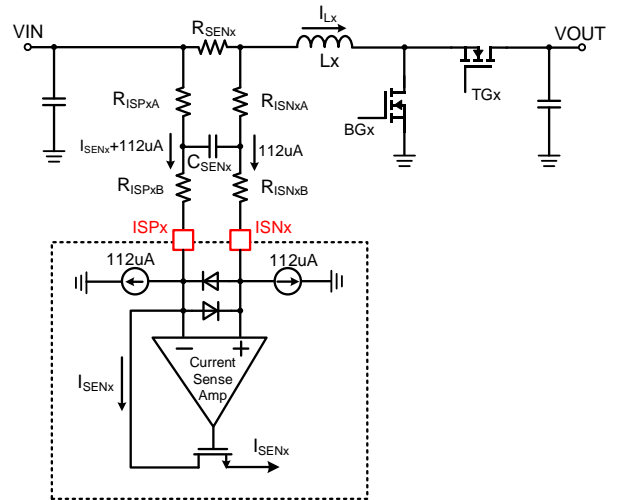

Figure 8. Current Sense Block
The sense current of each phase is used for peak current limit (OC1), peak current protection (OC2), constant current mode (CC), average overcurrent protection (AVG\_OC), current balance, and phase drop functions in multi-phase applications. Figure 8 illustrates the internal circuit for the individual phase current sense module.
As shown in Figure 8, the RC network between the  $R_{SENx}$  and ISPx/ISNx pins is the recommended configuration. The ISPx pin should be connected to the positive terminal of  $R_{SENx}$  through the resistor  $R_{ISPx}$ .  $R_{ISPx}$  is used to set the current sense gain externally and is composed of  $R_{ISPxA}$  and  $R_{ISPxB}$ .
There is a 112  $\mu$ A bias current sink, connected to the ISPx and ISNx pins. The ISNx pin should be connected to the negative side of  $R_{SENx}$  through resistor  $R_{ISNx}$ .  $R_{ISNx}$  is composed of  $R_{ISNxA}$  and  $R_{ISNxB}$  and should have the same value as  $R_{ISPx}$ . It is recommended to set  $R_{ISPxA}$  equal to  $R_{ISNxA}$  and  $R_{ISPxB}$  equal to  $R_{ISNxB}$ , and to insert a capacitor  $C_{SENx}$  between them, as shown in Figure 8. The symmetrical circuit will help filter noise from the small current sense signals.